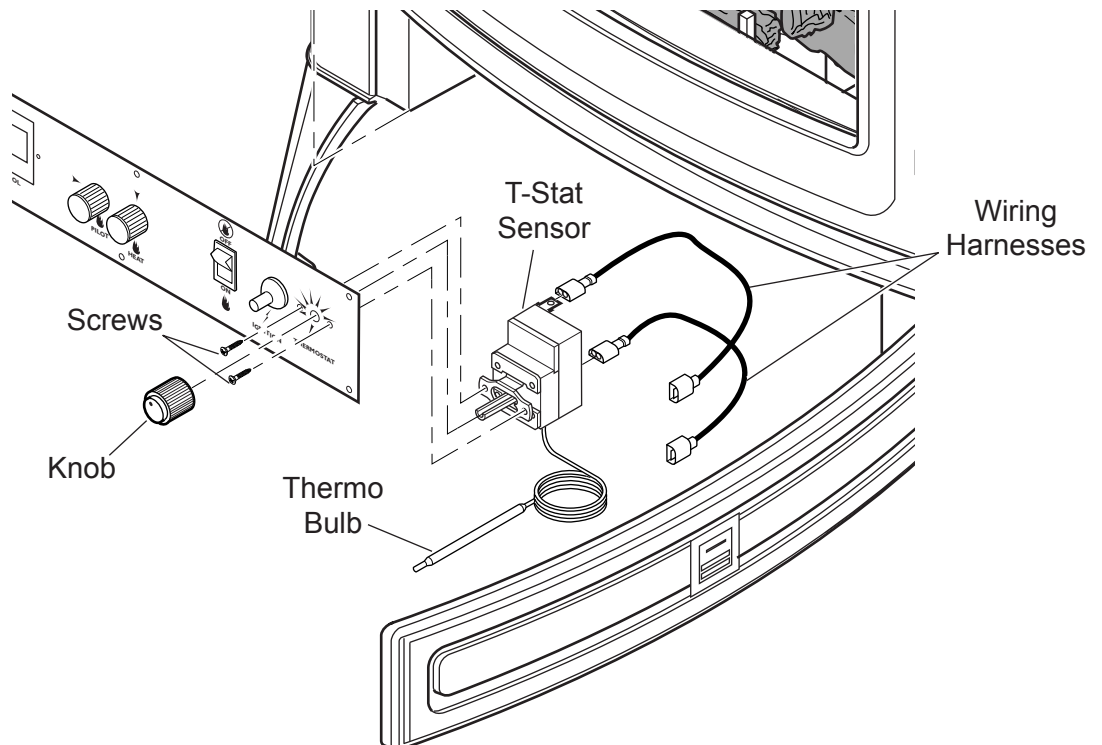

Figure 9 - Installing T-Stat Sensor and Control Knob
2. Slip the t-stat sensor behind the faceplate. Attach the t-stat sensor to the faceplate with 2 screws provided. Make sure the thermo bulb wire is on the bottom of the t-stat sensor. See *Figure 9*.
6. Install knob to shaft of t-stat sensor. *See Figure 9, page 14.*